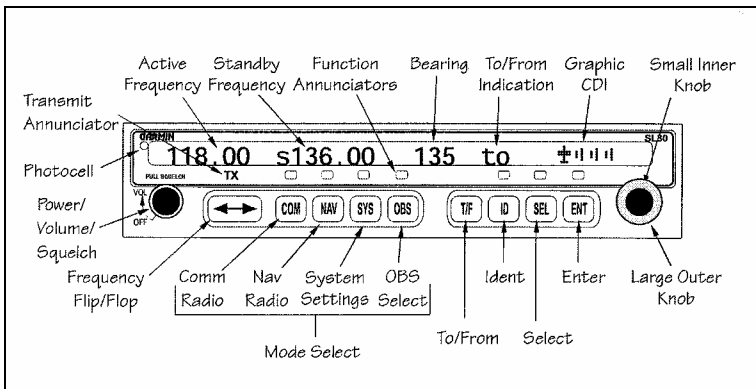

Figure 7-2. SL30 Display
2. The SL30 display and controls are shown in Figure 7-2. Annunciators over the function buttons will light when the mode is active or selected. Instructions for the commonly used Nav/Com functions are briefly explained in Table 7-1.